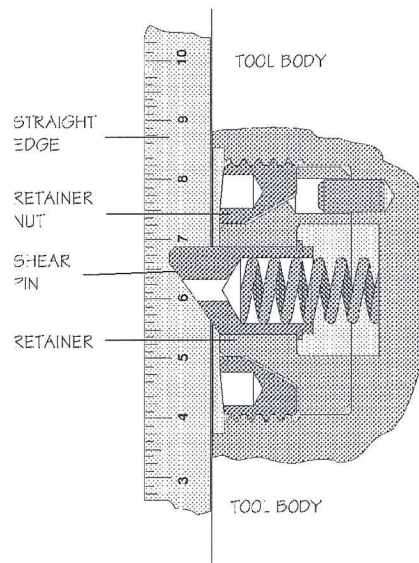

Figure 13. Verification of proper installation of shear pins
9. Ensure the shear pins on the lower outer body are installed with the tapered side of the pins facing the bottom and the flat surface facing the top. Refer to **Figure 13**.